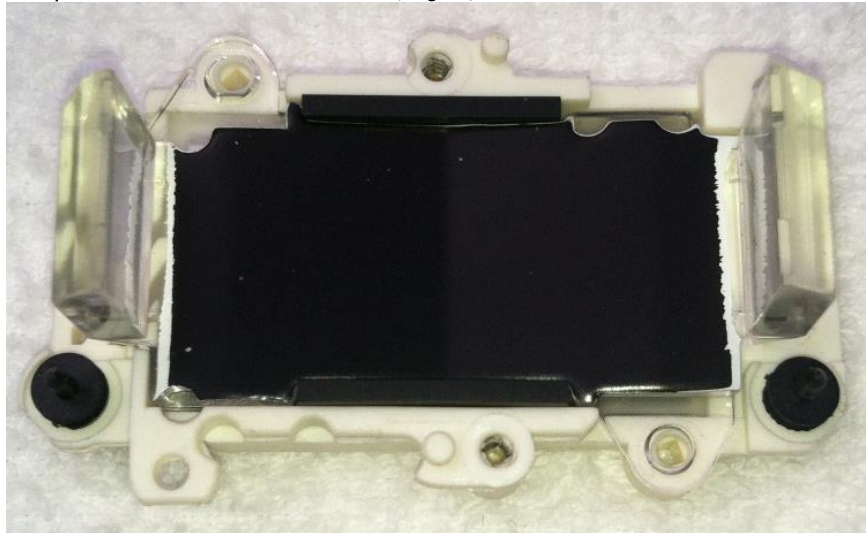

Figure 4: Rubber strips & plastic piece back in place
10. Place the clear plastic piece over the LCD screen (Fig 4).